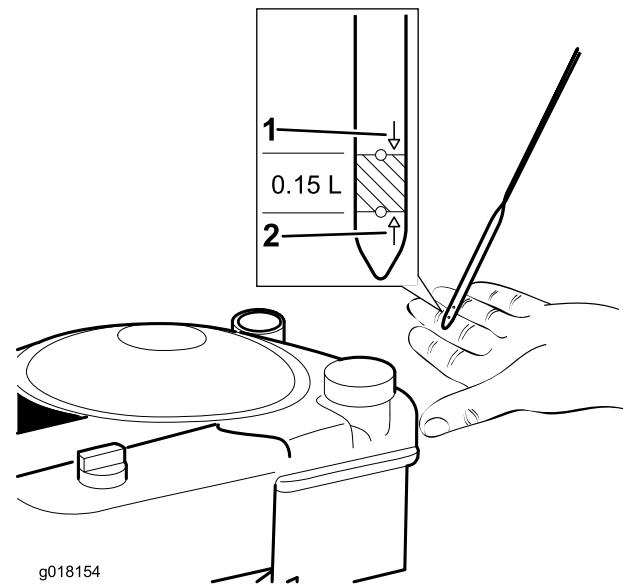

Figure 6
1. Remove the dipstick (Figure 6).
2. **Slowly** pour oil into the oil-fill tube, wait 3 minutes, and check the oil level on the dipstick by wiping the dipstick clean and then fully inserting the dipstick into the tube (Figure 6).
3. Fill the engine with oil until the engine oil level is correct on the dipstick, as shown in Figure 6.